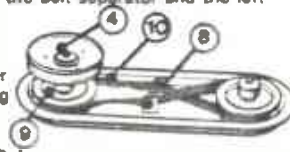

Figure 12. Replacing Toothed Belt
- 11) Refitting the toothed belt is carried out in the reverse order. Please note the lay of the belt over the belt separator bearings (See Fig 12).